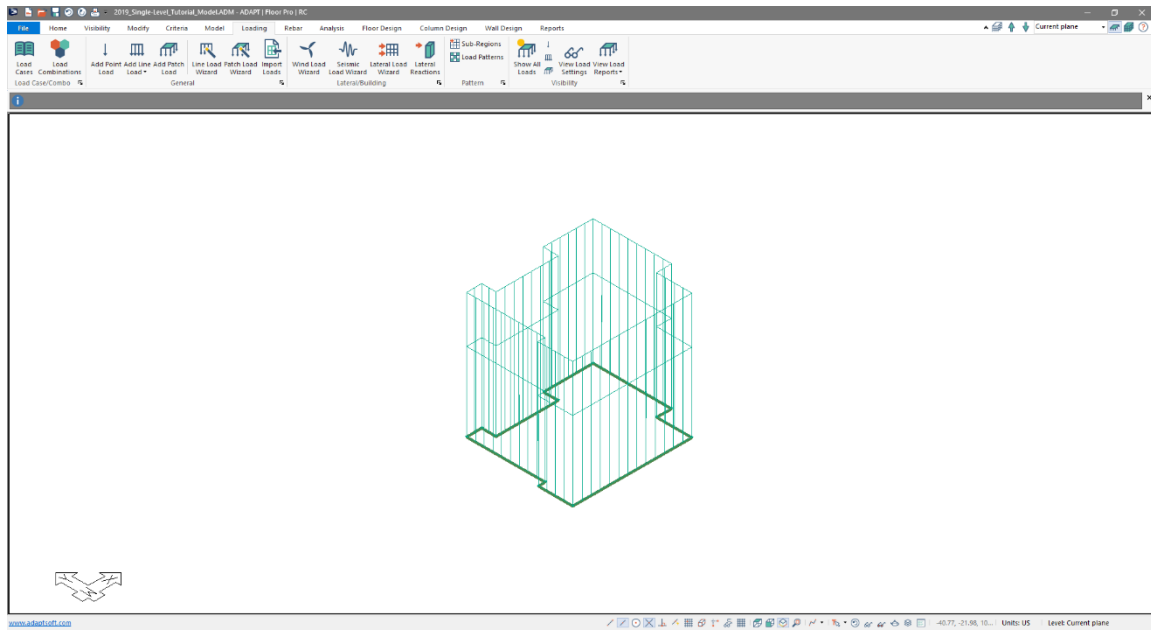

Figure 4-13
- Click on the *Top-Front-Right View*  icon in the **Bottom Quick Access Toolbar**. This will bring you to the view of the model shown in **FIGURE 4-13**. Note, if we check the dimension column for the loads in the Select/Set View Items window the program will display the load value on plan as well.